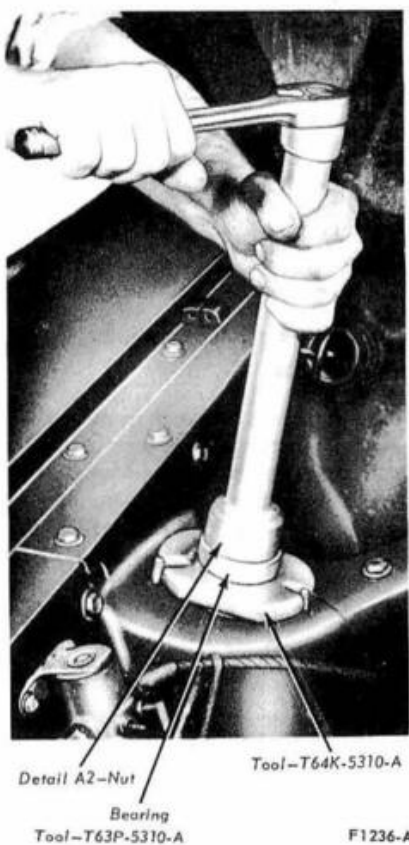
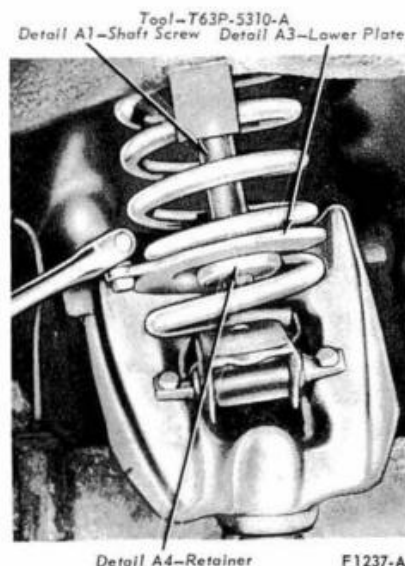
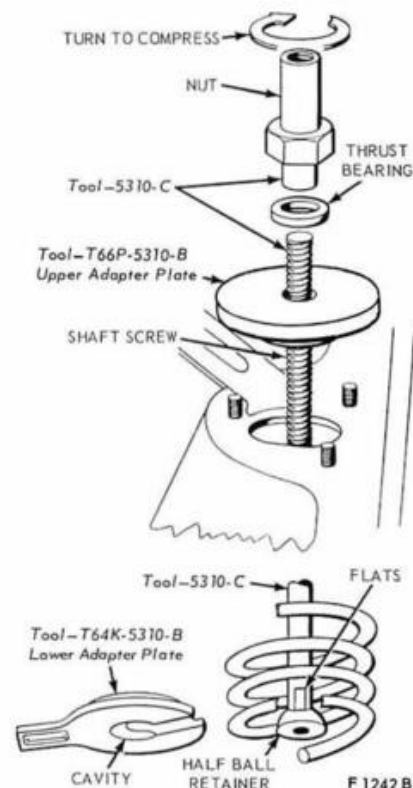

FIG. 8—Compressing or Releasing Spring on Mustang—Upper View
FIG. 9—Compressing or Releasing Spring on Mustang—Lower View
FIG. 11—Comet Spring Tool Installation
6. Position the upper plate (Tool T64K-5310-A) at the spring upper seat; place the bearing of tool T63P-5310-A on the plate and insert the tool shaft (detail A1) through the bearing and upper plate with the tool nut (detail A2) against the bearing as shown in Fig. 8.
7. Install the tool lower plate (detail A3) under the third coil from the bottom (Fig. 9). Secure the plate to the shaft screw (detail A1) with the retainer (detail A4). The retainer en-
8. Insert a 1/2-inch square drive flexhandle wrench in the drive hole in the lower plate to prevent the tool and spring from turning (Fig. 9). While thus holding the tool, compress
the spring by turning the tool shaft nut clockwise (Fig. 8) until the spring clears the suspension upper arm.
10. Turn the tool shaft nut counterclockwise until the spring is released (Fig. 8). **Hold the tool lower plate from turning during spring release. Use a 1/2-inch square drive flexhandle wrench (Fig. 9).**
6. Turn the tool shaft nut counterclockwise to release the spring (Fig. 8). As the spring is being released, guide the spring into its lower seat.
5. Install the spring compressor, Tool T63P-5310-A or the Comet Tool 5310-C (Fig. 11), and compress the spring (Figs. 9 and 12). Either tool can be used.
5. Install the spring compressor, Tools T63P-5310-A and T64K-5310-A and compress the spring (Figs. 8 and 9).